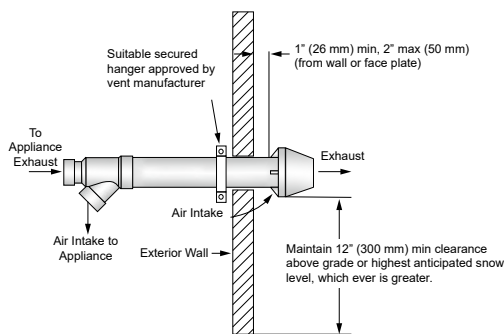
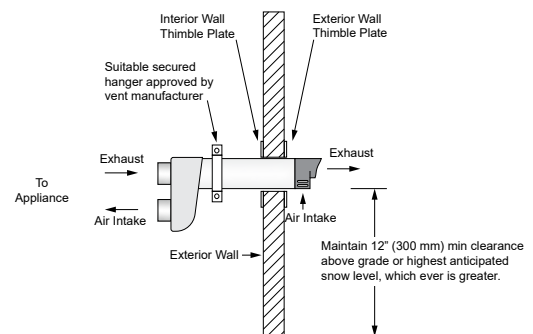

Figure 8.13 CPVC/ PVC Concentric Terminal Clearances
Figure 8.14: Polypropylene Concentric Terminal Clearances
- Both inlet and exhaust can be piped to the side wall and terminated with a concentric terminal as seen in **Figure 8.13** and **Figure 8.14**.